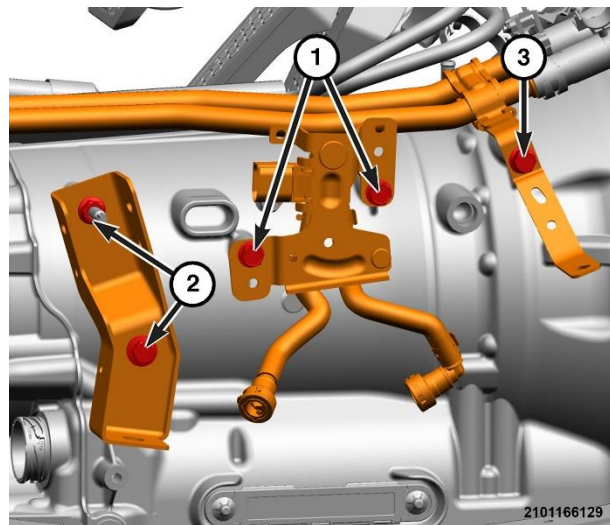

Figure 37 – Brackets
46. Remove the fasteners (2) then position aside the DPF bracket with wire harness attached (Figure 37).
47. Remove the fasteners (1) then position aside the pressure differential sensor and bracket with wire harness attached (Figure 37).
48. Remove the fastener (3) then position aside the transmission heater coolant hoses bracket with wire harness attached (Figure 37).
86. Position the transmission heater coolant hoses to the transmission and tighten the fastener (3) to 22 N·m (16 Ft. Lbs.) (Figure 37).
87. Position the pressure differential sensor and bracket to the transmission and tighten the fasteners (1) to 18 N·m (13 ft. Lbs.) (Figure 37).
88. Position the diesel particulate filter bracket and tighten the fasteners (2) to 26 N·m (19 Ft. Lbs.) (Figure 37).